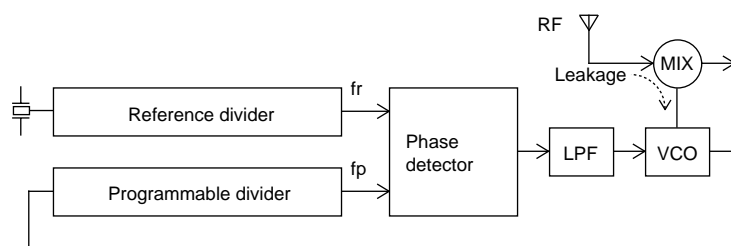
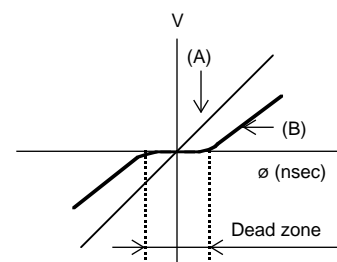

Figure 1
Figure 2
The phase comparator compares  $f_p$  with the reference frequency ( $f_r$ ) as shown in figure 1. This circuit outputs a voltage  $V$  (A) that is proportional to the phase difference  $\phi$  as shown in figure 2. However, due to internal delays and other factors, the actual IC is unable to compare small phase differences, and thus a dead zone (B) appears in the output. To achieve a high signal-to-noise ratio in the end product, the dead zone should be as small as possible.